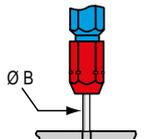

Fig. 2
“NO GO” - Insert the end (red) of the gauge as shown (Fig. 2).
- "NO GO" - Insert the end (red) of the gauge as shown (Fig. 2). The gauge should not pass through the opening.